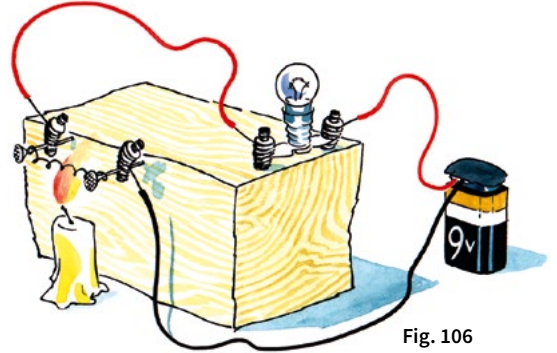

Fig. 106
1. Drive two small nails into a small wooden board and interconnect them with a piece of 0.1 mm iron wire, twisted into a spiral. Connect the spiral, the bulb and the battery to close the circuit as shown in fig. 106. As soon as the circuit is closed, the bulb will light up. Yet, if the spiral is heated up, the light will go out, which is proof that due to high temperature the iron wire resistance has increased.